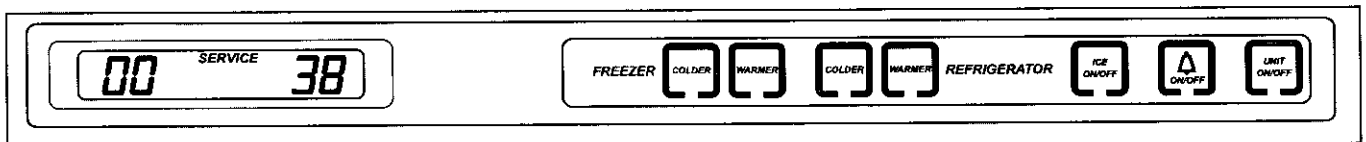
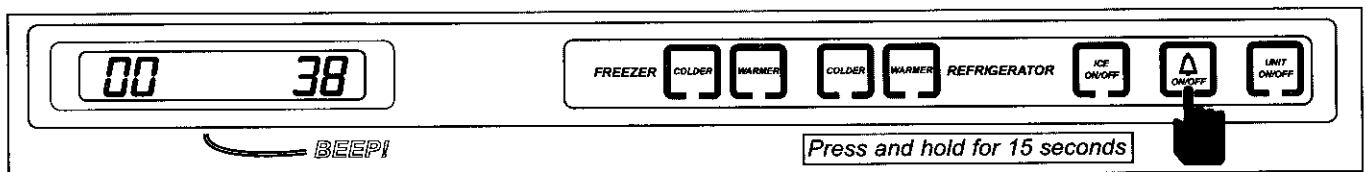

Figure 3-56. Non-flashing SERVICE Annunciator after Diagnostic Mode = Error Codes were Registered
Figure 3-57. Clear Non-flashing SERVICE Annunciator - Press & Hold Bell ON/OFF Key for 15 Seconds
If error codes are observed during Diagnostic Mode, a non-flashing SERVICE annunciator will appear on the LCD when Diagnostic Mode ends, indicating error codes are still registered (See Figure 3-56). To clear a non-flashing SERVICE annunciator and the error codes, the problem must be corrected and the unit must be ON. Then, the Bell ON/OFF key must be pressed and held for fifteen (15) seconds. The control will emit a short "beep" when the SERVICE annunciator and error codes are cleared. (See Figure 3-57)